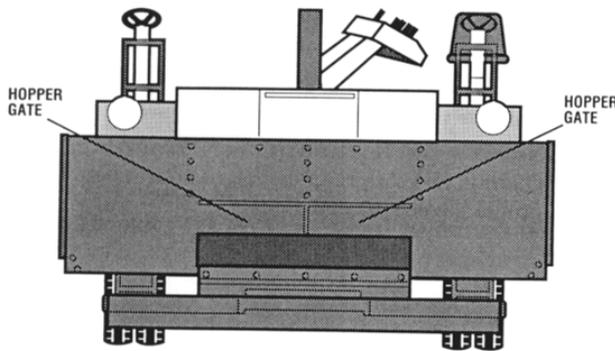

Figure 40. Paver Hopper Gates.
- d. Hopper gates should be opened high enough to supply needed material to the paver. Do not run the gates too low and starve the augers for mix, because fine material may drop directly on the ground, leaving the coarse material deposited on each side by the auger (see Figure 40).